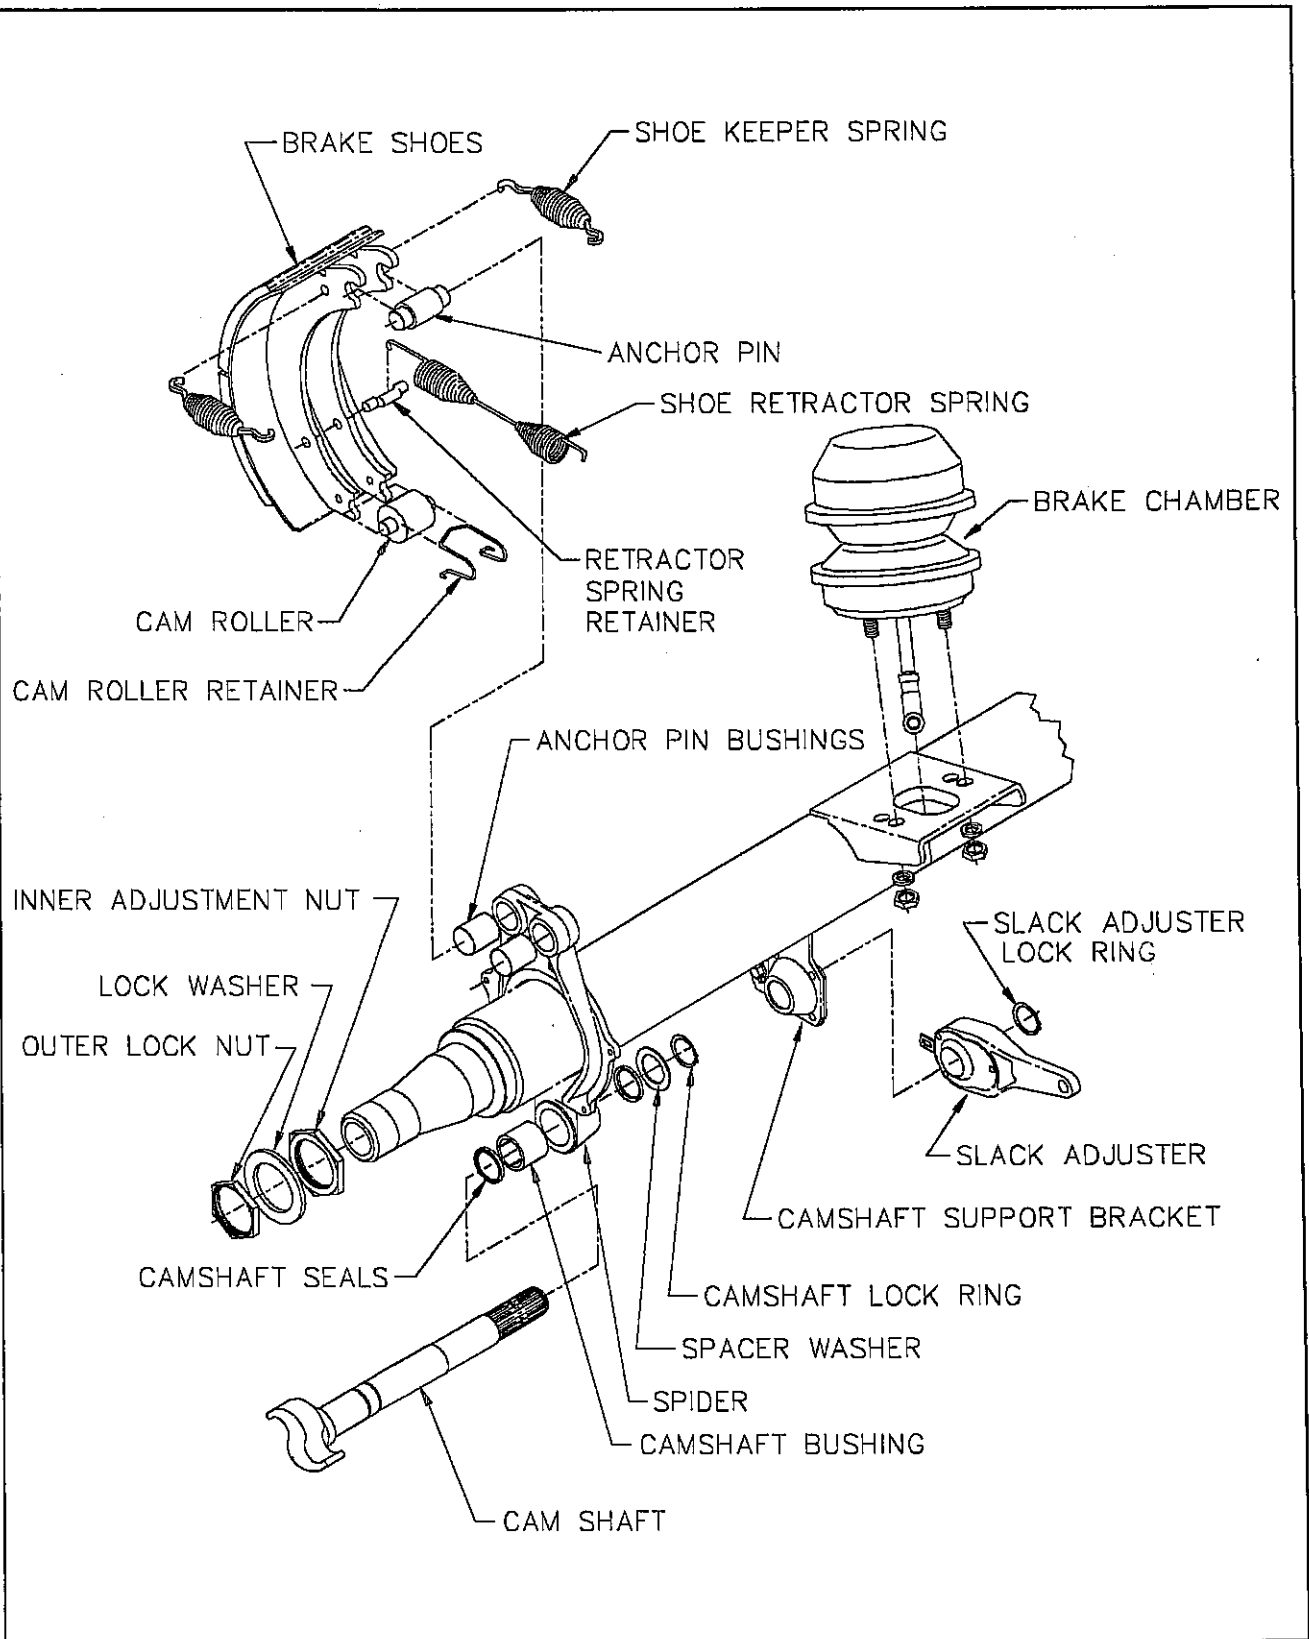

Fig. 4-3 Axle and Brake Assembly
**b. Disassembly for 16-1/2"X7" Brakes (see Figure 4-3)**
c. Reassembly for 16-1/2" X 7" Brakes (see Figure 4-3)
- d. Remove the outer spindle nut and locking washer (see Figure 4-3).